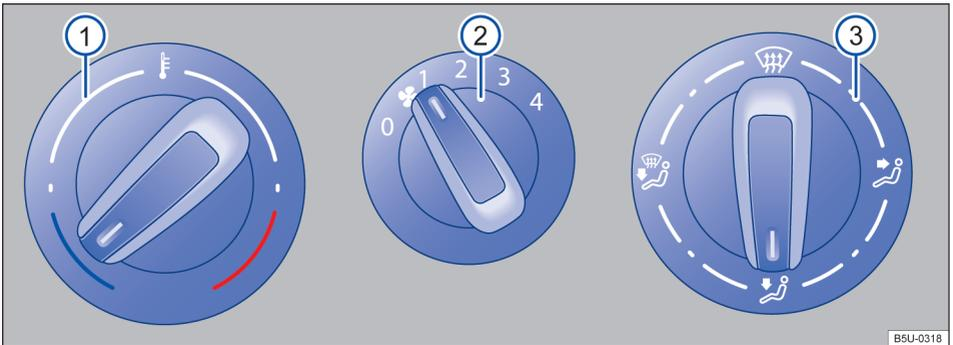

Fig. 75 Ventilation and heating system controls.
- *Heating and ventilation system*: turn the blower knob to level 0 → Fig. 75 ②.
- *Heating and ventilation system*: turn the left knob → Fig. 75 ① to adjust the temperature.
- *Heating and ventilation system*: turn the blower knob → Fig. 75 ②.
- *Heating and ventilation system*: rotate the right regulator → Fig. 75 ③ to the desired position.
- In vehicles with heating system, turn the temperature knob → Fig. 75  completely to the right, to the maximum heating setting.